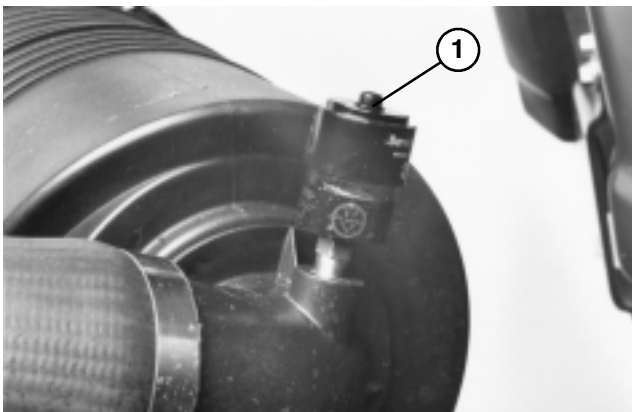

Figure 37
2. Service the air cleaner filters when ever air cleaner indicator (Fig. 37) shows red or every 400 hours (more frequently in extreme dusty or dirty conditions). Do not over service air filter.
8. Reset indicator (Fig. 37) if showing red.